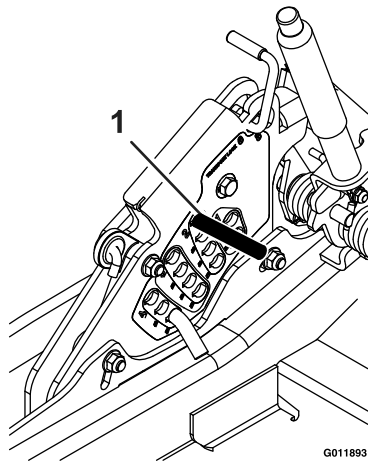

Figure 30
- D. Install a 1/2 x 6 inch (approx.) rod or bolt through the 2 inch height of cut hole (see Figure 30).